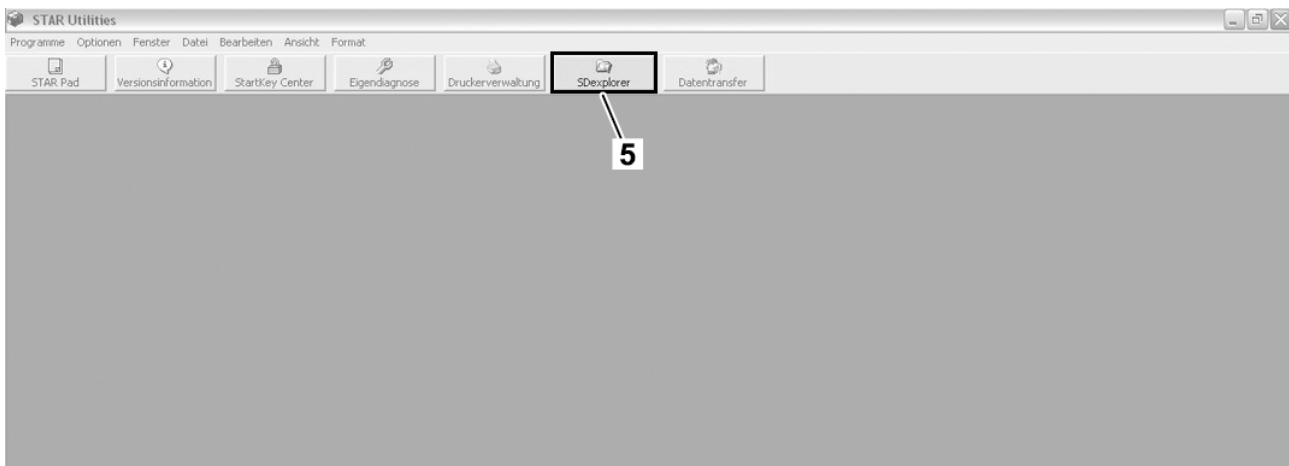

Figure 3.
6. Pressing “SDexplorer” (Figure 3) (5) takes you to SDexplorer.